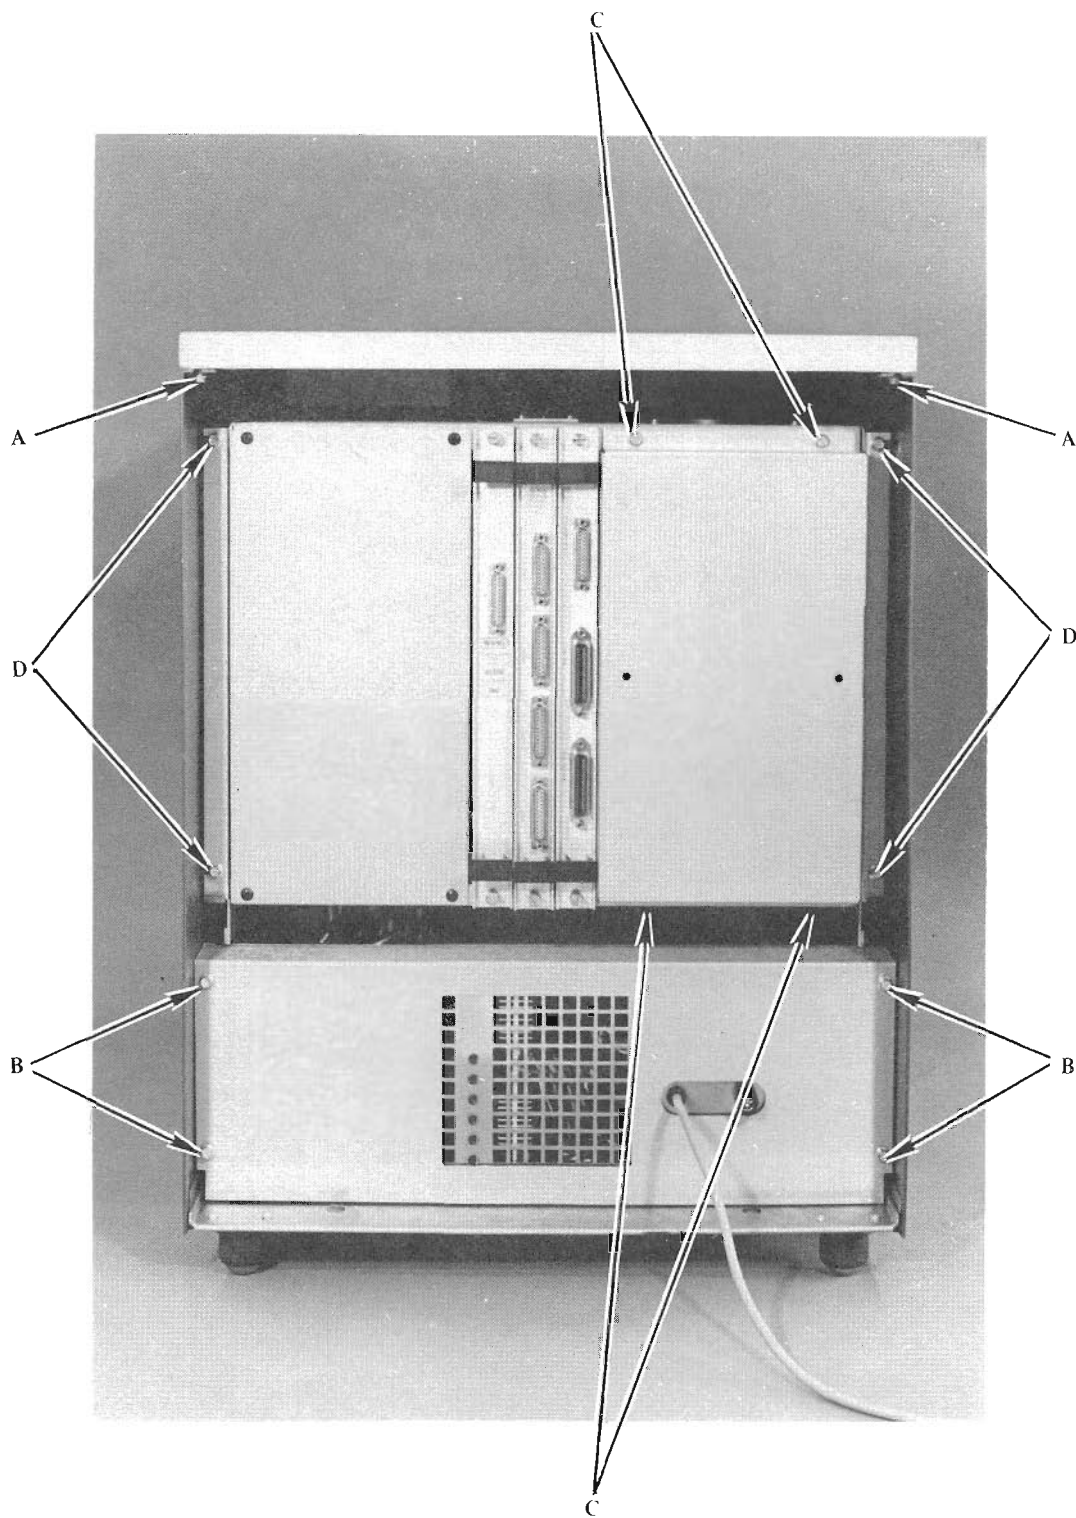

FIGURE 11-3 FASTENING SCREWS
1. Using a 5/16" nut driver (WL #726-9473), remove the two screws (ref: FIGURE 11-3, items A) from the rear-underneath sides of the top cover.
Remove the four screws (ref: FIGURE 11-3, items B) securing the back panel and remove that panel.
Remove the four screws (ref: FIGURE 11-3, items C) securing the CPU chassis cover and remove the cover.
7. Remove the four screws (ref: FIGURE 11-3, items D) securing the CPU chassis and lift the chassis out of the cabinet.